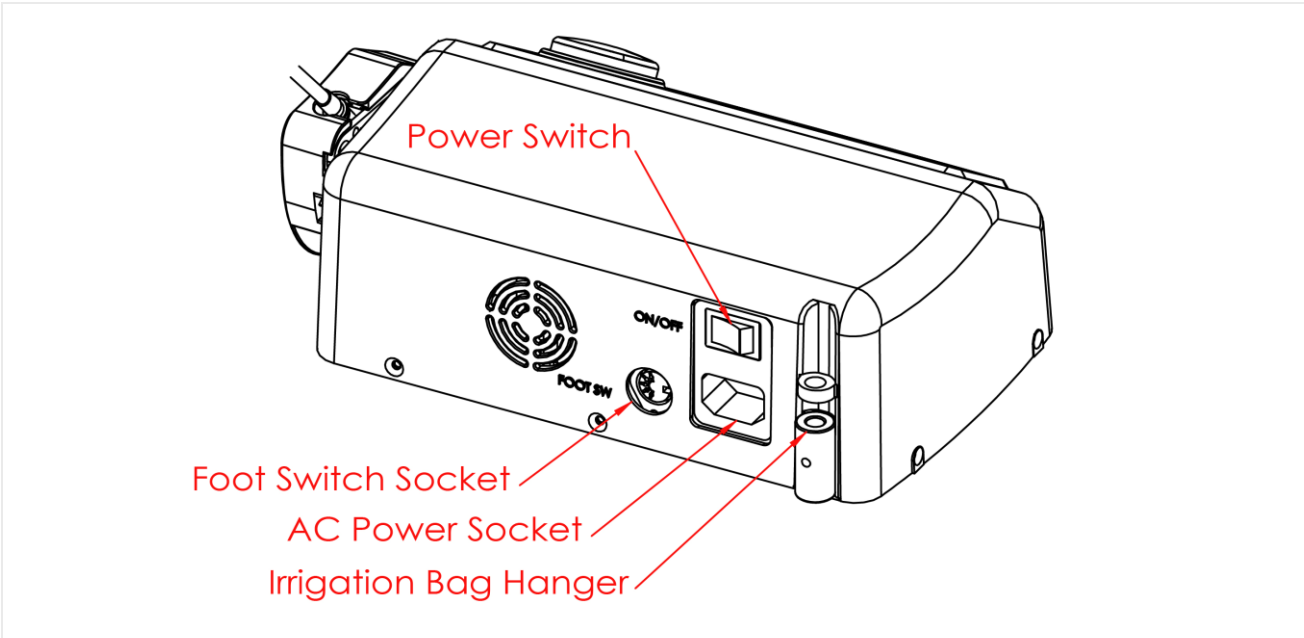

Fig.3-2, Rear view of iM3 OP1 System
- 1 Turn the device on by pressing the “1” side of the POWER SWITCH (Fig.3-2) located on rear side of the device.
- 1 Turn the device off by pressing the “0” side of the POWER SWITCH (Fig.3-2) located on rear side of the casing of the device.